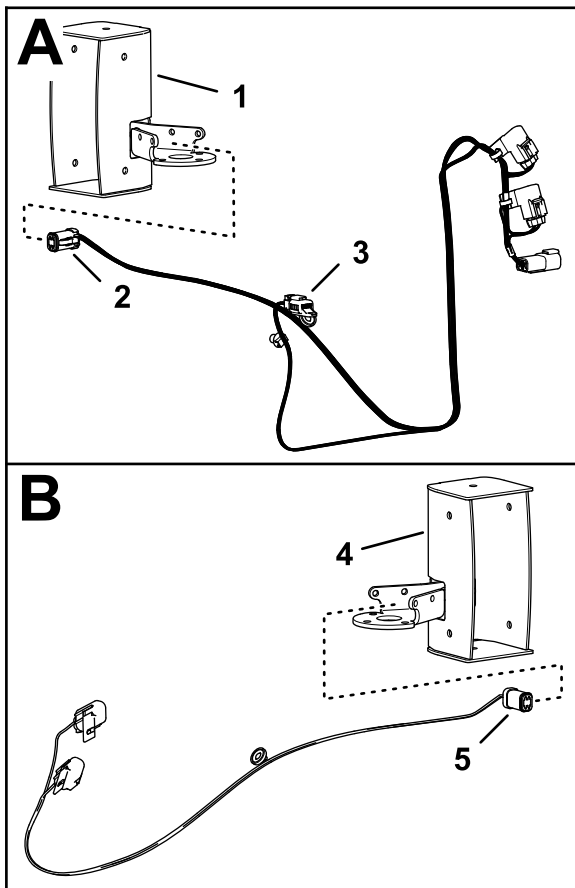

Figure 46
1. Assemble the 4-socket connector of the left taillight and license plate harness into the left light housing (Figure 46).
2. Assemble the 4-socket connector of the right taillight and license plate harness into the right light housing (Figure 46).